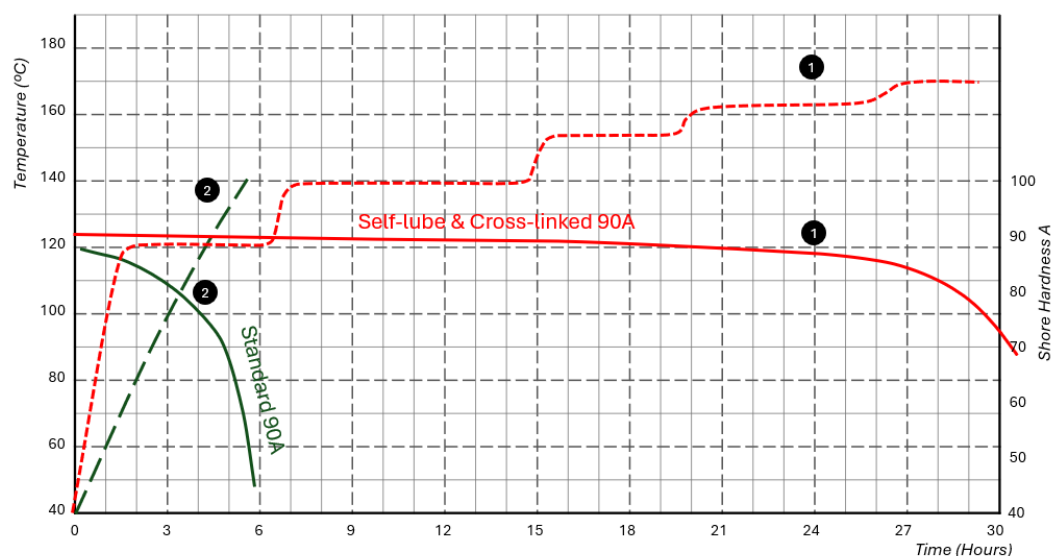

Fig 3: Effect on hardness of time at high temperature [relate 1 & 1 and 2 & 2]
Figure 3 shows the usefulness of the 3600 series (90A), and by implication the other series, plotting time rather than temperature. It presents two linked trials, where lines (1-1) and (2-2) are read together. The air-circulating oven equilibrated readily, as shown by steps in dashed line (1) when the control was adjusted. Hardness remained almost unchanged until about 155°C, with slight loss at 160°C, and significant fall-off in conditions of about 170°C after several hours.